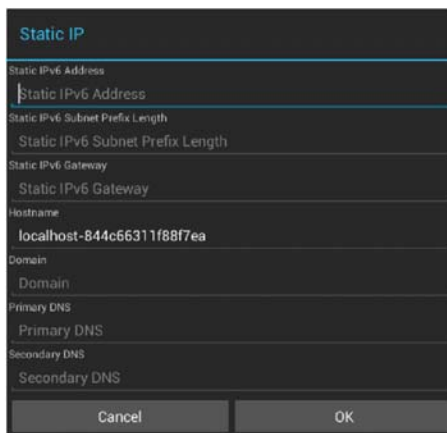

FIG. 59 Static IP (IPv6) window
- Press the Static IPv6 Address field to set the static IP address for this panel, via the Static IP window (FIG. 59):